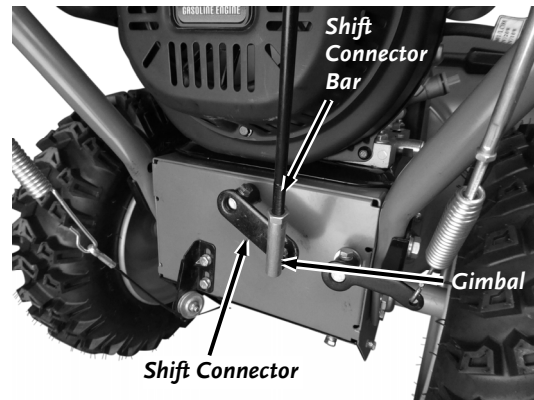

Figure 12
9. Remove the Locknut from the lower Gimbal end of the Shift Connector Bar and insert the threads through the Shift Connector at the center of the machine (**Figure 12**).